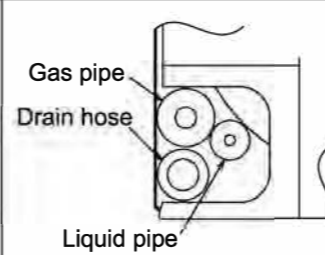

Fig.8
- (1) Install the refrigerant piping using the left piping method.
- (2) Run the piping through the space in the mounting plate.
- (3) Position the refrigerant piping in the left piping space of the indoor unit as shown in Fig. 8.